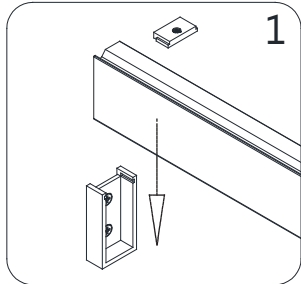

**Fig 12**
**12.** Attach the remaining **Guide Rail Bracket Assembly (#02)** onto the opposite end of the **Upper Guide Rail (#01)**. (Fig 12)